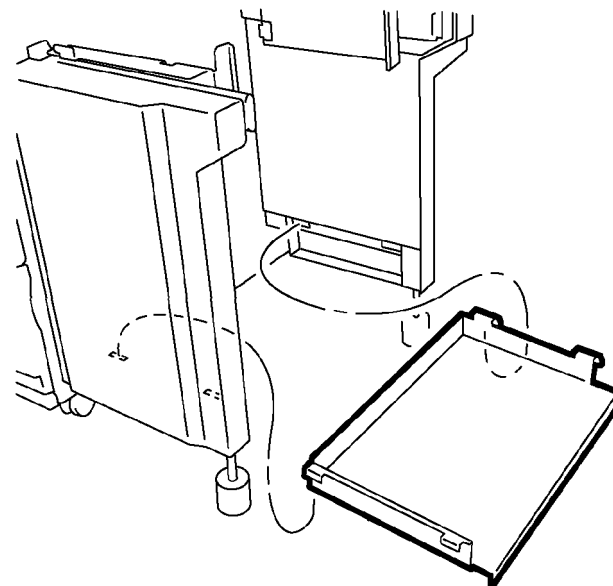

Figure 2 Removing Bottom Plate
3. Remove Bottom Plate (Figure 2).